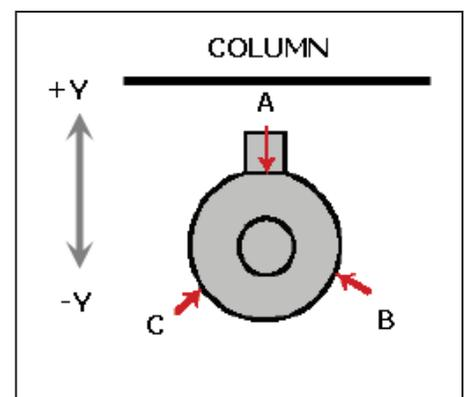

Figure 8.11
- a. Orient the probe in the spindle so one of three adjustment screws is opposite the machine column (see **Figure 8.11**). Label this Screw A.